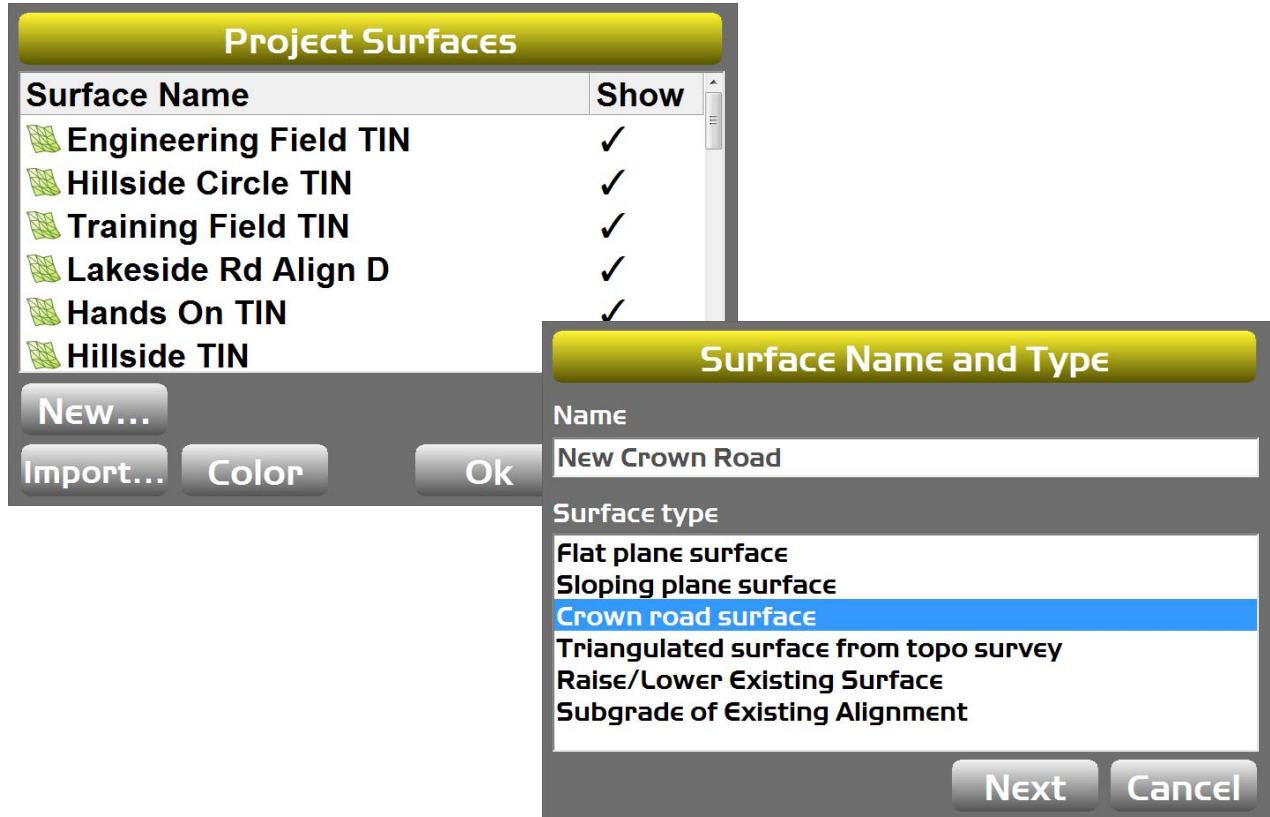

Figure 37: Project Surfaces Screen – New Crown Road Surface
4. Select **Crown road surface** (Figure 37).